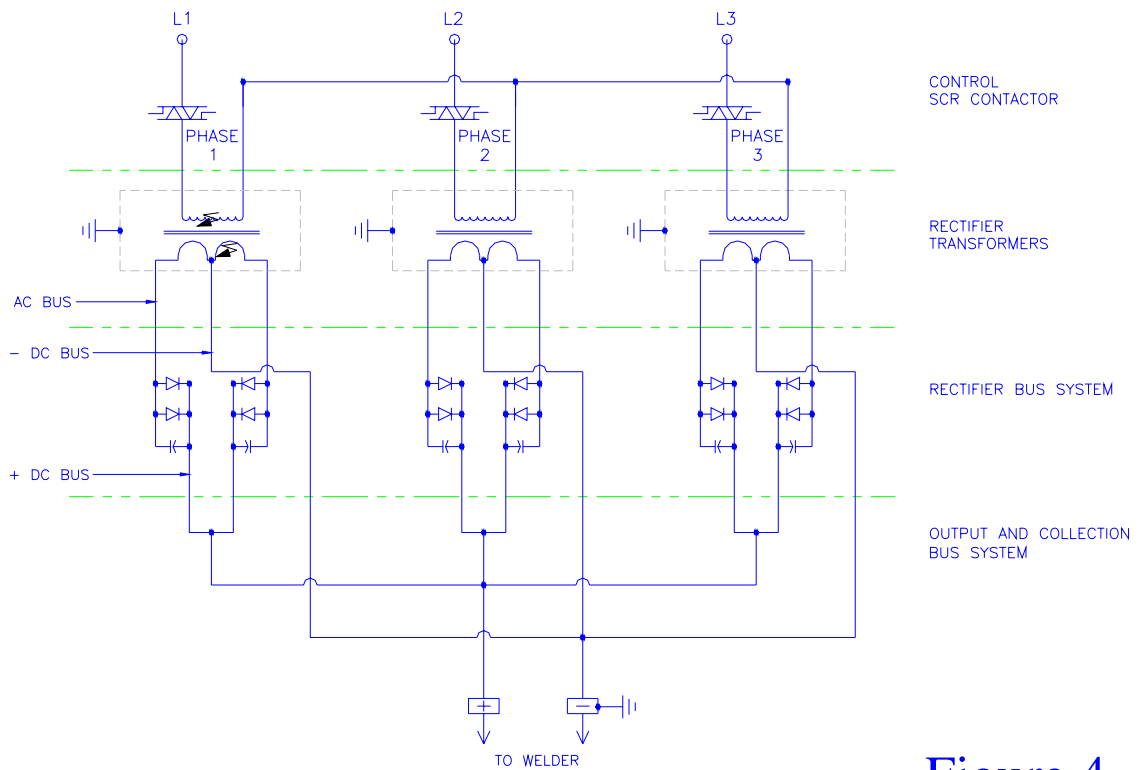

Figure 4
4. Figure 4 (page 7) shows a DC Power Supply with a turn to turn short in the primary or secondary winding of the rectifier transformer.
- d. A transformer fault in the form of a turn to turn short in the primary or secondary winding of the rectifier transformer (figure 4).